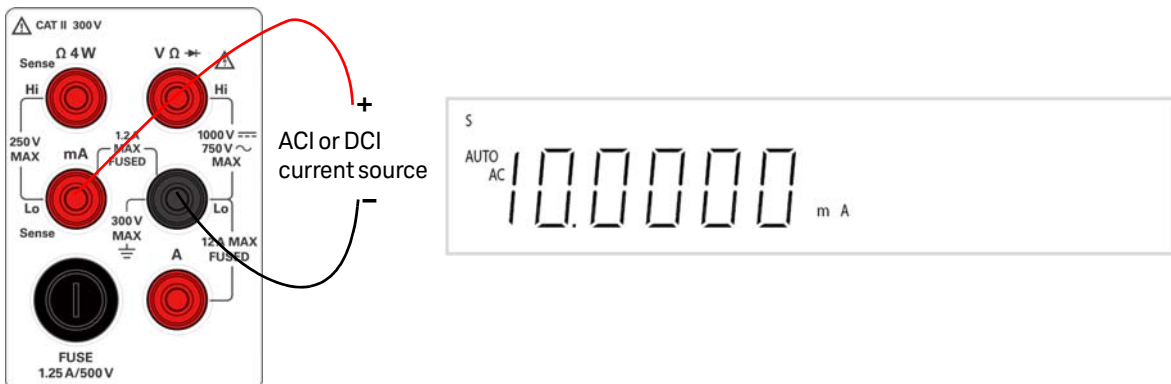

Figure 1-12 ACI RMS or DCI (mA) terminal connection and display
- 3 Connect the red and black test leads to mA input terminal as shown in Figure 1-12.